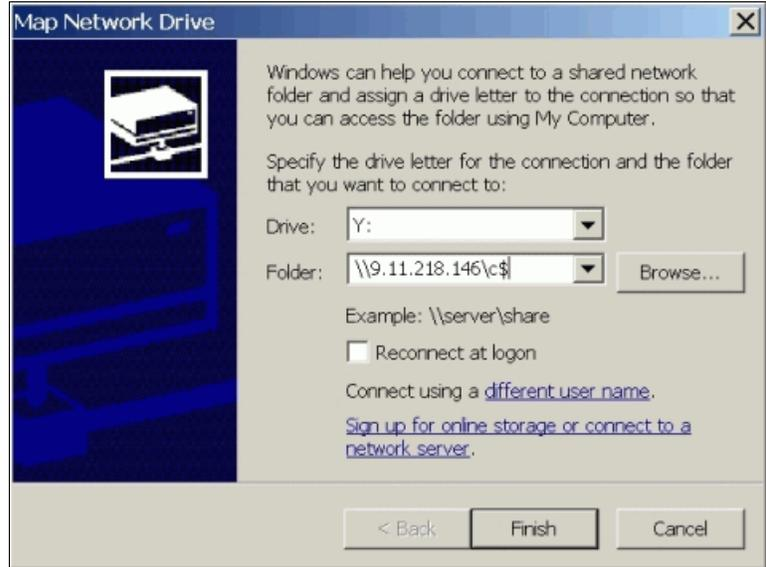

Figure A-7 Mapping address
- b. Enter the network mapping address. See Figure A-7.